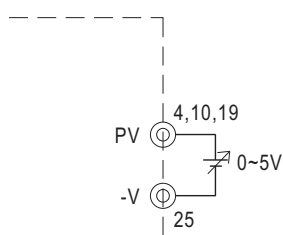

Fig. 3.1 Add on 0~5V external voltage
(1) Connecting an external DC source between PV(4,10,19) and -V(25) on CN500 that is shown in Fig. 3.1.